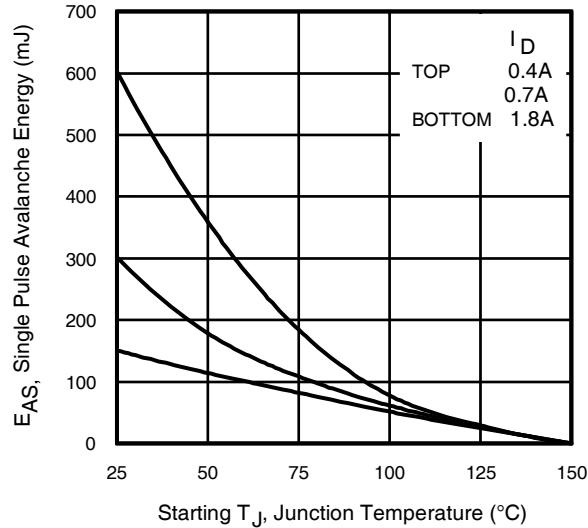

Fig 13. Maximum Avalanche Energy vs. Drain Current
- ② Starting $T_J = 25^\circ\text{C}$, $L = 93\text{mH}$, $R_G = 25\Omega$, $I_{AS} = 1.8\text{A}$. (See Figure 13).
- ③ $I_{SD} = 3.6\text{A}$, $dI/dt \leq 520\text{A}/\mu\text{s}$, $V_{DD} V_{(\text{BR})\text{DSS}}$, $T_J \leq 150^\circ\text{C}$.
④ Pulse width $\leq 300\mu\text{s}$; duty cycle $\leq 2\%$.
⑤ $C_{oss \text{ eff.}}$ is a fixed capacitance that gives the same charging time as C_{oss} while V_{DS} is rising from 0 to 80% V_{DSS} .